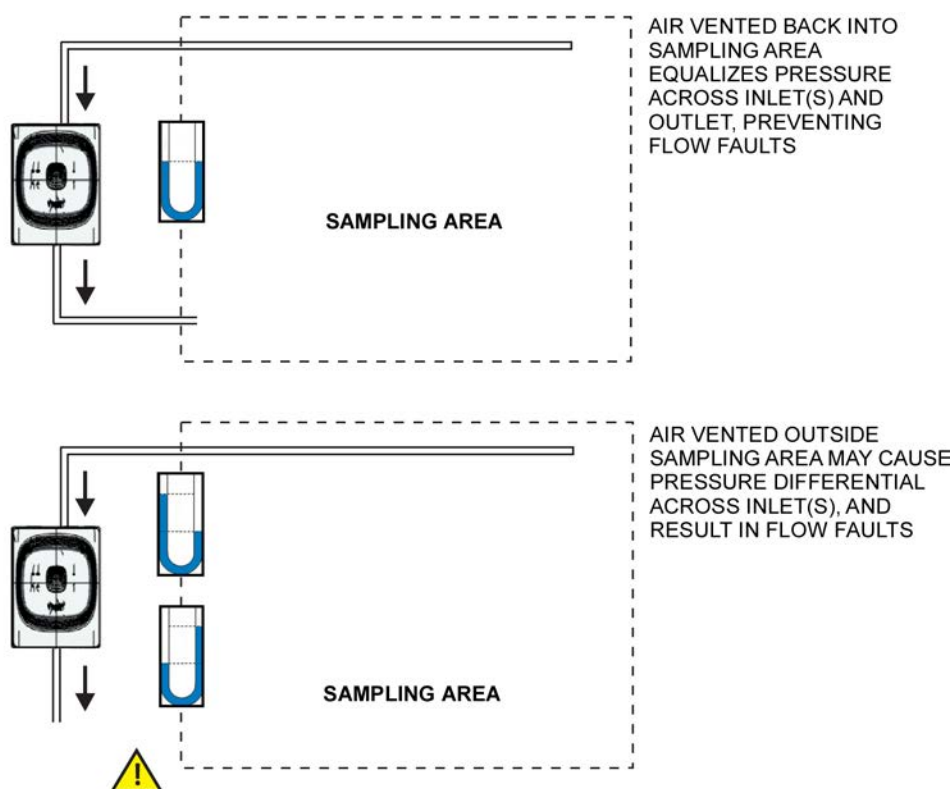

Figure 7-6: Piping Considerations
3. Whenever the FAAST FLEX is installed outside the risk area, it is recommended that the exhaust air from the device be returned to the risk area. This will reduce flow faults caused by pressure differences (see Figure 7-6).